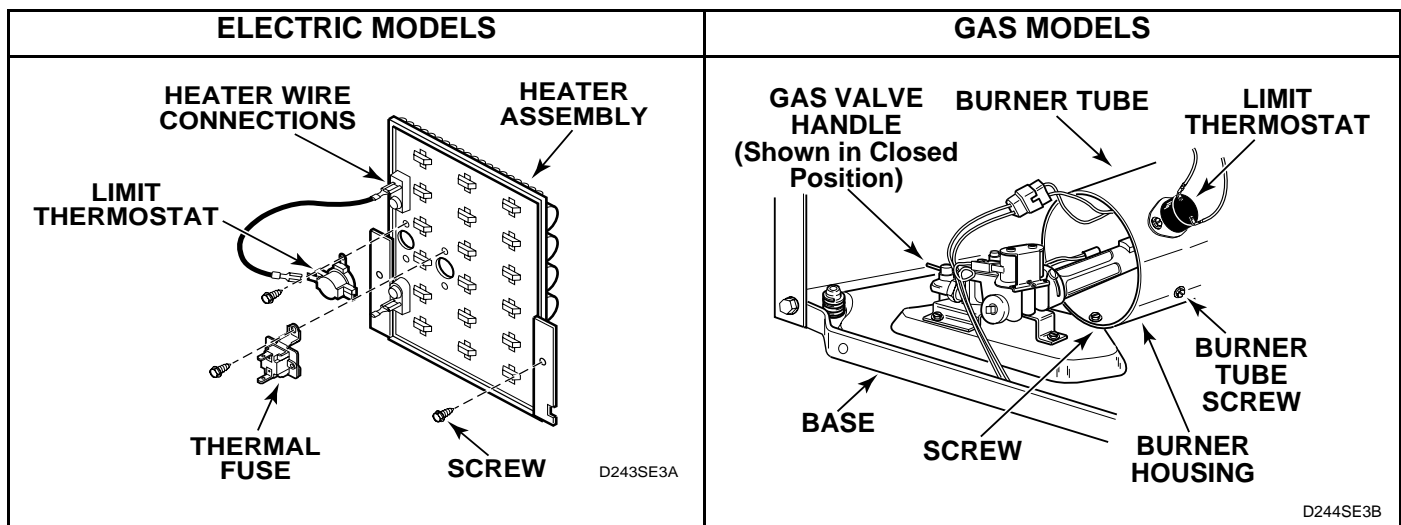

Figure 37
- (1) Remove one screw from right side of burner housing holding burner tube in place. See *Figure 37*.
- Remove screw from right side of burner housing, while holding burner tube in place. See *Figure 37*.
- Remove screw holding front of burner housing to dryer base and remove housing out through front of dryer. See *Figure 37*.
- Disconnect wires and remove screws holding limit thermostat to burner housing (gas models) or element plate (electric models). See *Figure 37*.
- Remove two screws holding element and plate to heater box and remove element and plate out through front of dryer. See *Figure 37*.
- Disconnect wires from element and plate. See *Figure 37*.
- c. Disconnect wires and remove thermostat or thermistor attaching screws. See *Figure 37*.